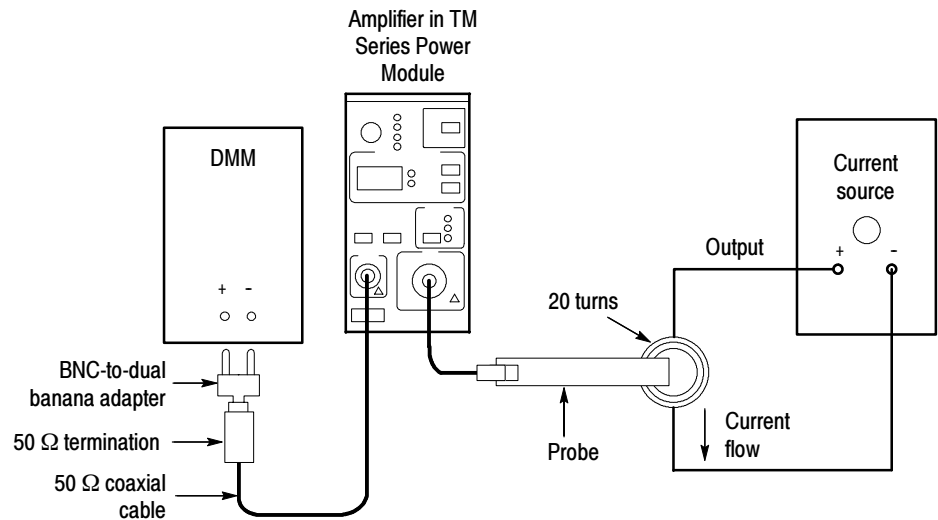

Figure 10: DC gain accuracy test setup for A6302 and A6302XL current probes
2. Connect the current loop to the current source as shown in Figure 10.
3. Clamp the current probe around the 20 turn current loop, as shown in Figure 10. Verify that the arrow-shaped indicator on the probe points away from the current source.